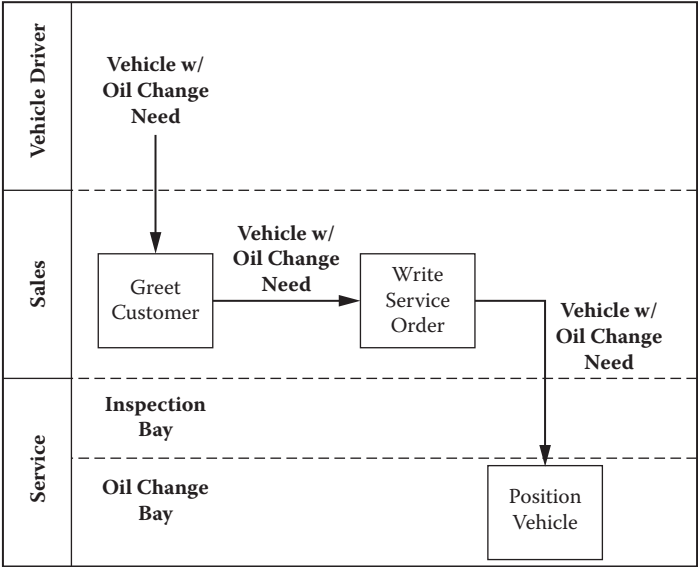

Figure 5.12 Swimlane diagram with “split band” showing two distinct bays in the Service Department.
8. Split (subdivide) the band if you want to show a subset of similar work within the same entity (Figure 5.12).